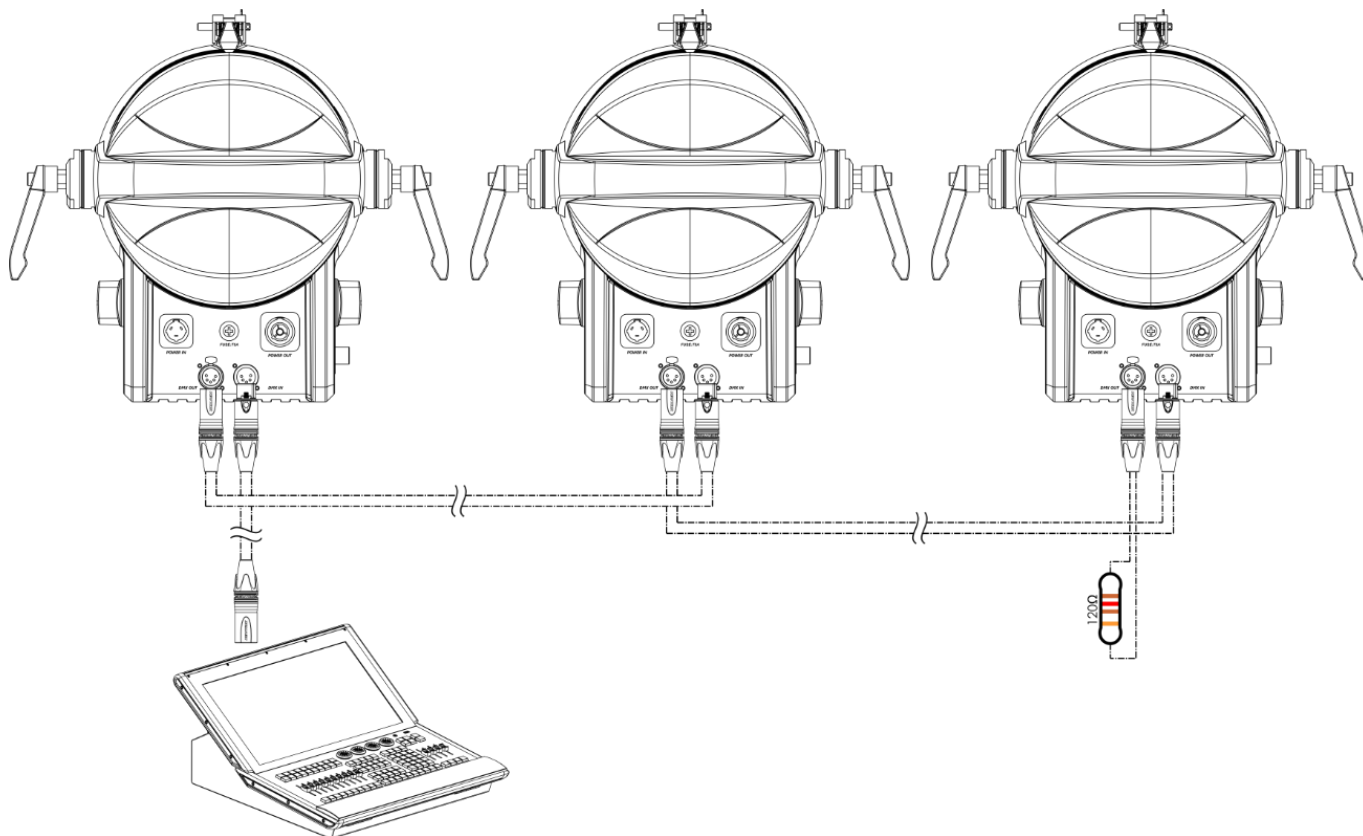

Fig. 14
- 03) Repeat step 2 to connect all devices in a daisy-chain as shown in Fig. 14.